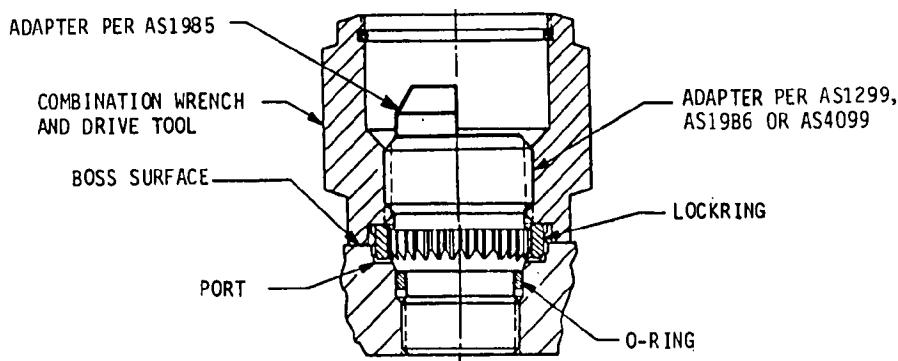

FIGURE 4 - Lockring Installation
4.2.5 While the zinc chromate (or other primer) applied per 4.2.4 is still wet, install the lockring by rotating the threaded end of the combination wrench and drive tool clockwise onto the adapter assembly until it touches the lockring. Using an open end or socket wrench on the tool, turn the tool in a clockwise direction until it bottoms on the port surface as shown in Fig. 4. Visually observe that the tool has bottomed.